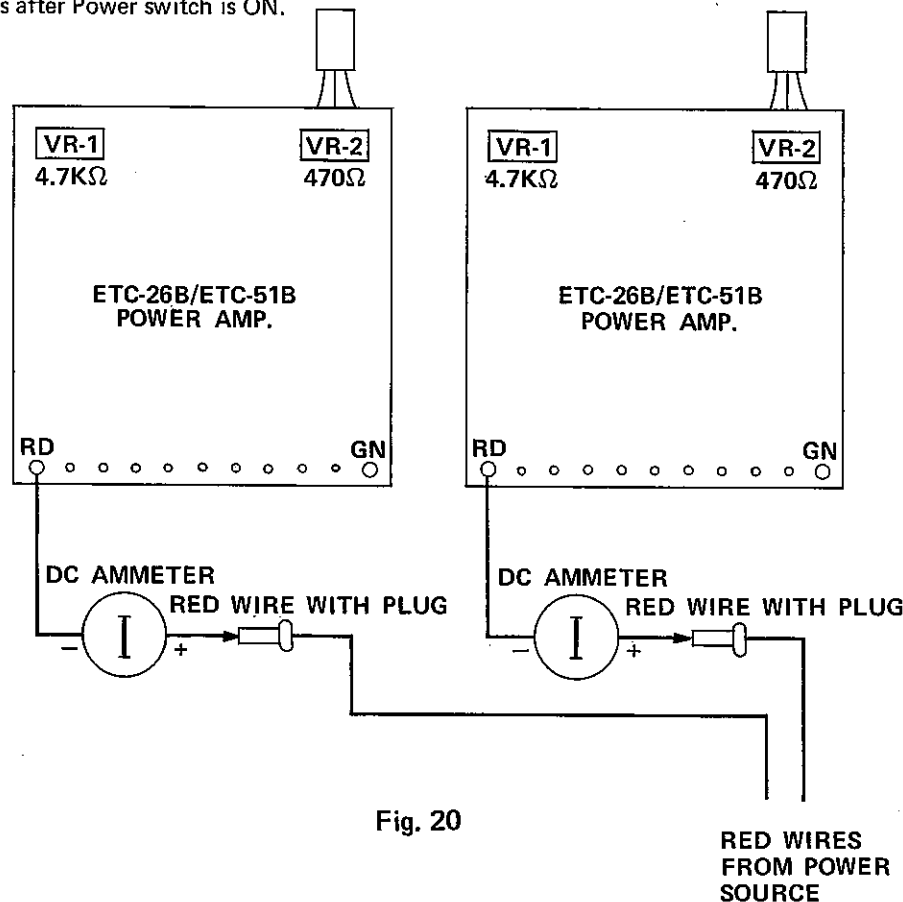

Fig. 20
B. Remove the plug (red wire) from the No. 1 terminal (+B) of the Power Amplifier Unit (ETC-26B/ETC-51B) and connect the DC ammeter to each channel. (See Fig. 20)